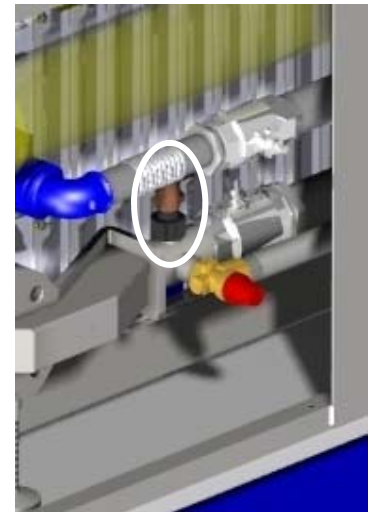

Figure 9.2 - Water Flow Switch
1. The water flow switch is located in the return pipe before the pump and the heat exchanger (**see figure 9.2**) and will prevent the boiler from firing should there be inadequate or no water flow. This is to protect the heat exchanger from damage in the absence of water (dry firing) which will cause catastrophic failure of the heat exchanger.